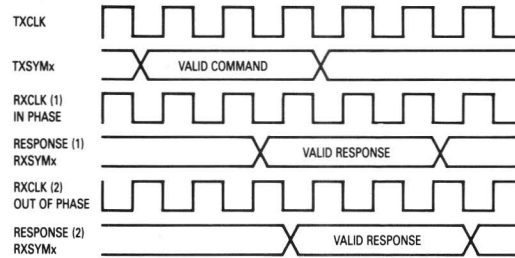

Figure 8-1. Parallel Command Response Time
1. ACK response to RESET, DISABLE LOOPBACK, and ENABLE TRANSMITTER within 2 clock periods. As shown in Figure 8-1, the precise response time depends on the relative phase of the TXCLK and the RXCLK signals. If they are in phase, the response will be available at the RXSYMx pins 1.5 clocks after the command is latched. If the clocks are 180° out of phase, the delay will be 2 clocks. The command should be held on the TXSYMx pins until the response is received on the RXSYMx pins.